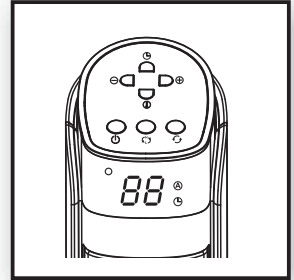

Figure 2
(Figure 2)
3. When the heater is initially plugged in, there will be a "beep" and the **Power Light** will turn on indicating power to the unit. The **Power Light** will remain lit until the heater is unplugged from the electrical outlet. (Figure 2)